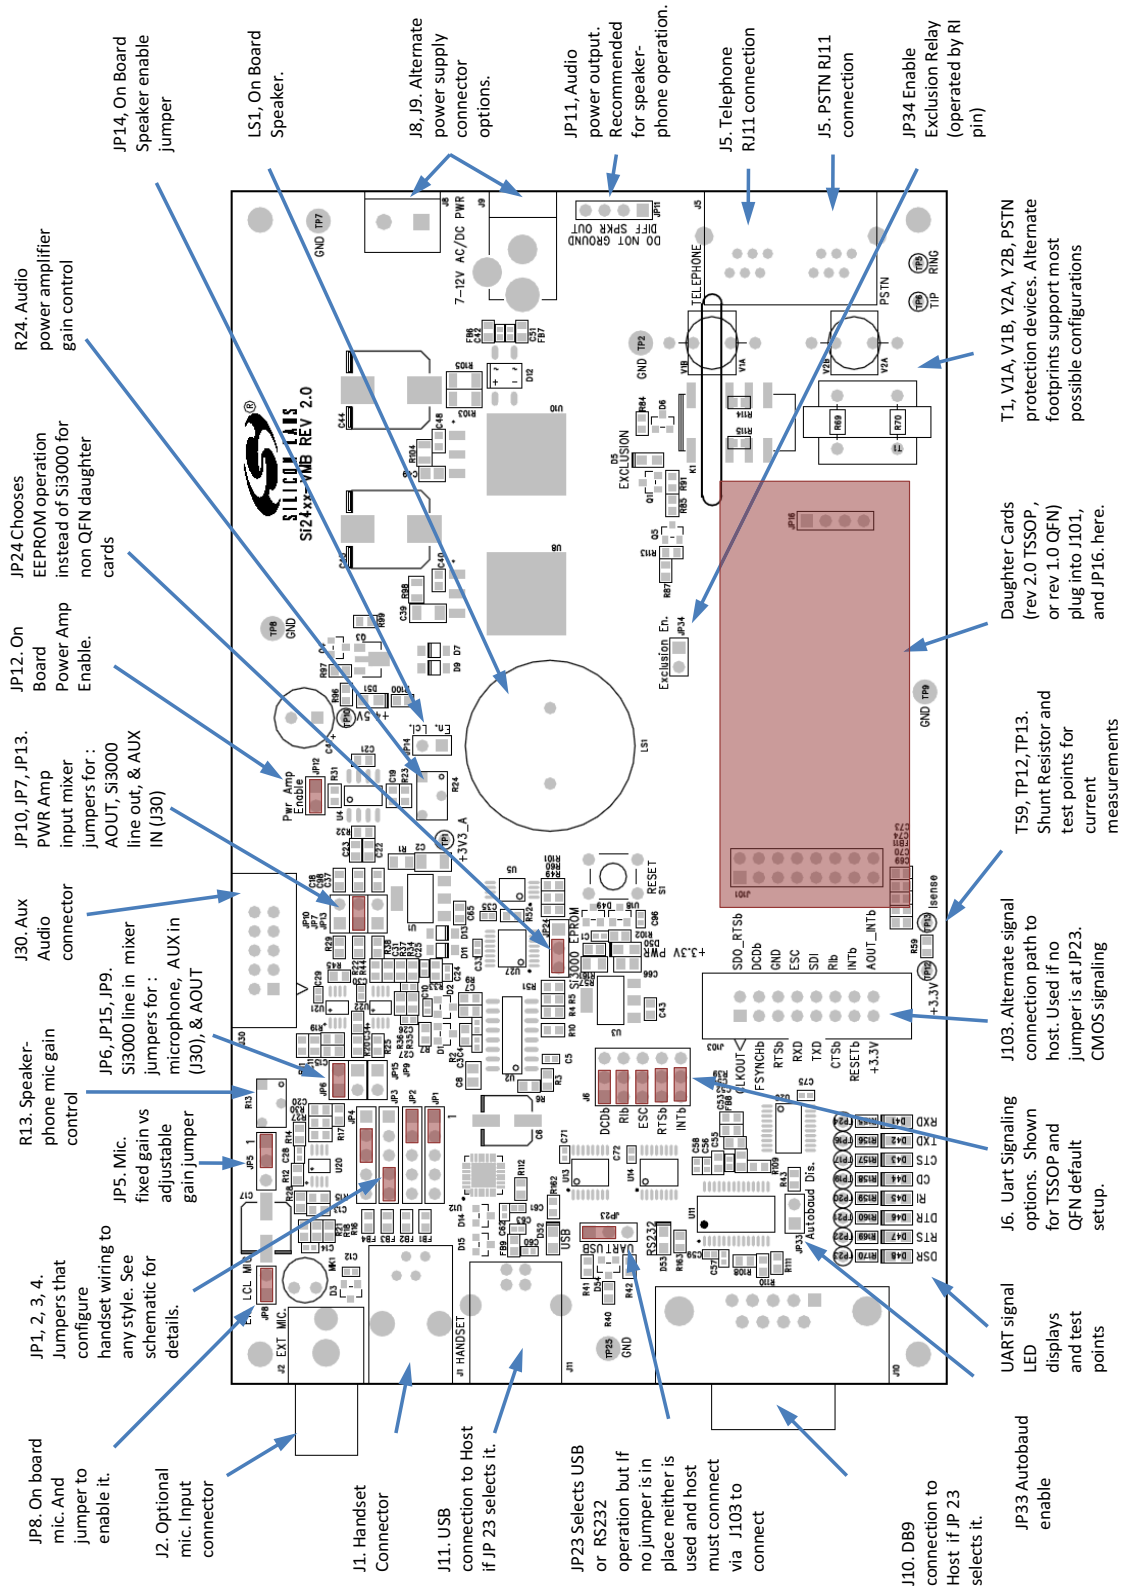

Figure 5. Function and Location of Global Voice ISModem EVB Jumpers
Figure 5 shows the function and location of the jumpers present on the global fax EVB.
1. Set jumpers according to the default configuration shown in Figure 5.